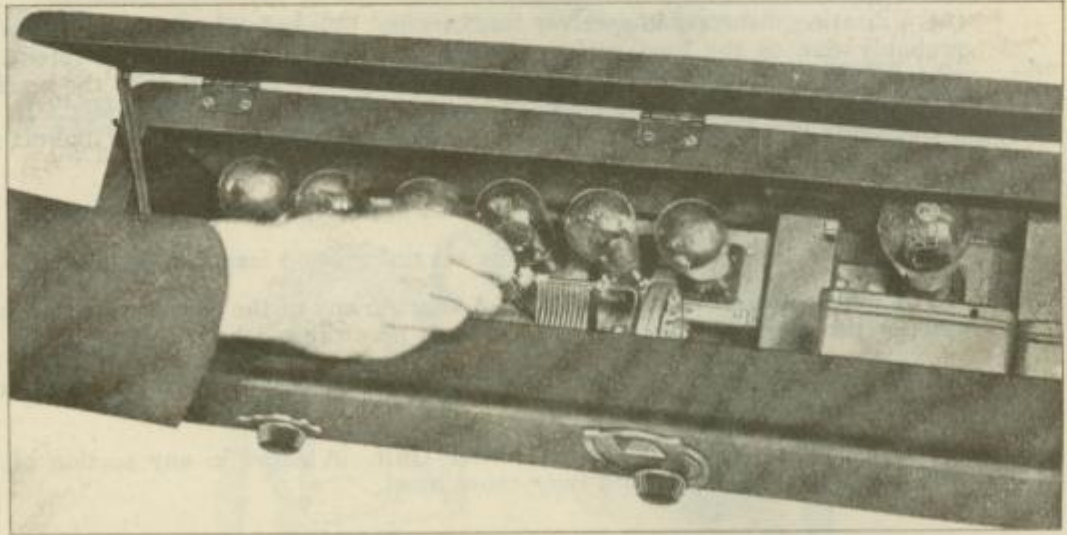

Figure 6—Adjusting the compensating condenser.
- (b) To reach the adjusting screw of the compensating condenser, break the brown paper seal and insert the screw-driver through the hole at the bottom of the tuning condenser assembly. (See Figure 6.)
(11) DISTORTED REPRODUCTION